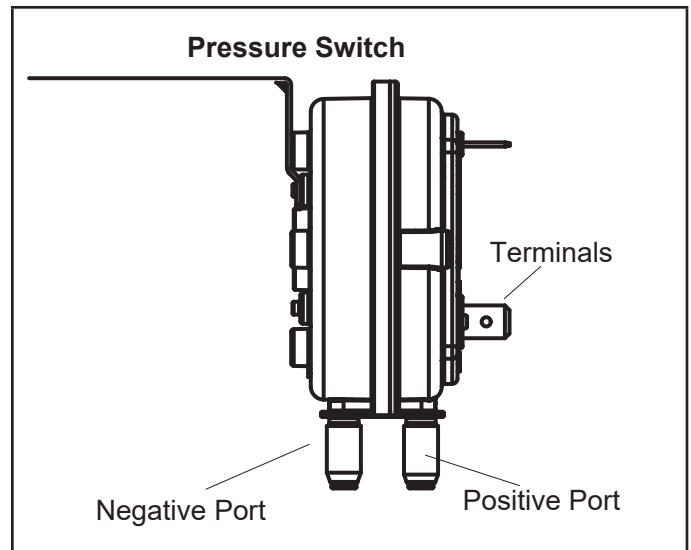

FIGURE 12
8. Combustion Air Pressure Switch (FIGURE 12)